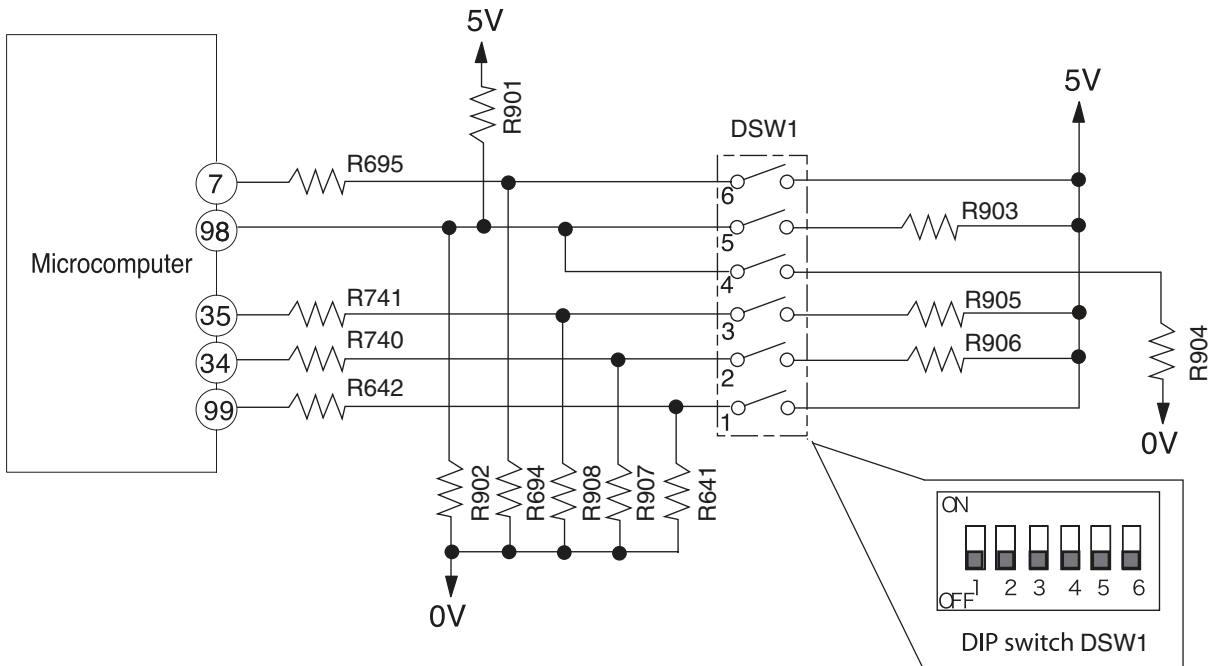

Fig.10-1 Dip switch Circuit
- Fig.10-1 shows the dip switch circuit; the table shown in Fig.10-2 are function and setting position from ①–⑥ of the switch no.